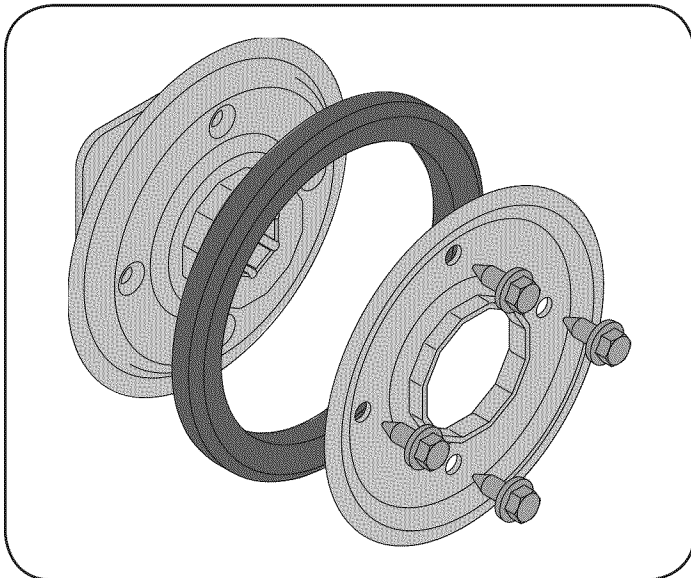

Figure 35
- Remove the four screws which secure the friction wheel's side plates together. See Figure 35.